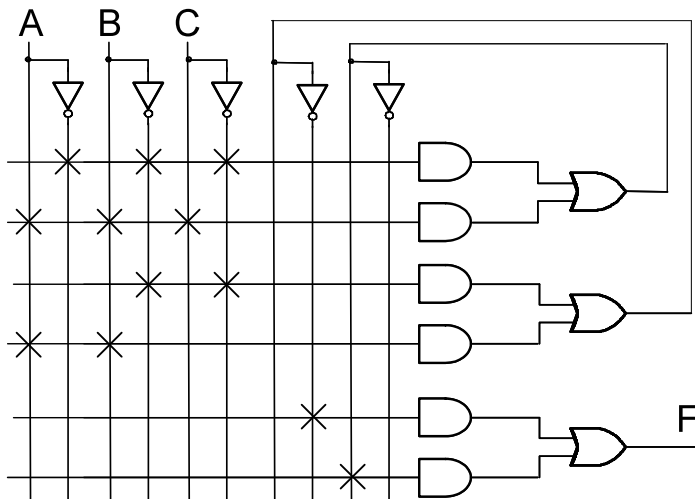

Figure 4 – Circuit for question 4. An X indicates that the wires are connected, i.e., the vertical signal is an input to the corresponding horizontal AND gate.
4. The programmable array logic (PAL) implementation of function F shown in Figure 4 is: